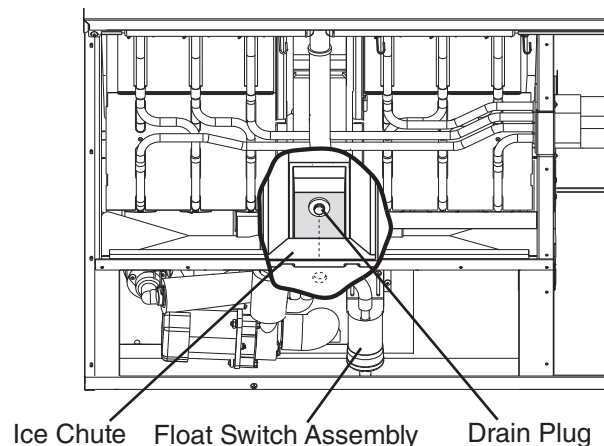

Fig. 6
- 5) Remove the drain plug located on the lower front part of the ice chute. See Fig. 6. Allow the water tank to drain.